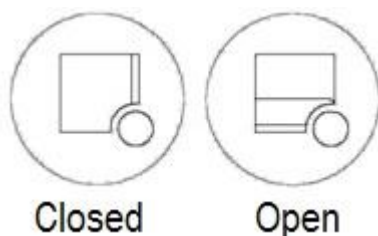

Fig. 5. Positions of the fan protective grid fixing devices
Connection of the showering device is carried out using flexible wiring (Fig. 5).
5.5. Before starting operation ensure that the protective grid (6) is in place and is fixed by the fixing device (Fig. 5).